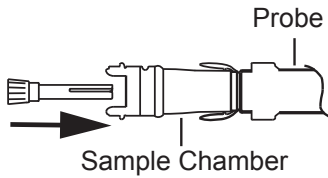

Figure 2: Insert Tip Guide into Sample Chamber
2. Using standard aseptic technique, remove the Applicator from the package and inspect for damage. Remove Tip Protector (A).
5. Insert Tip Guide (B) into Sample Chamber. Ensure that the Tip Guide is fully inserted. Refer to Figure 2.